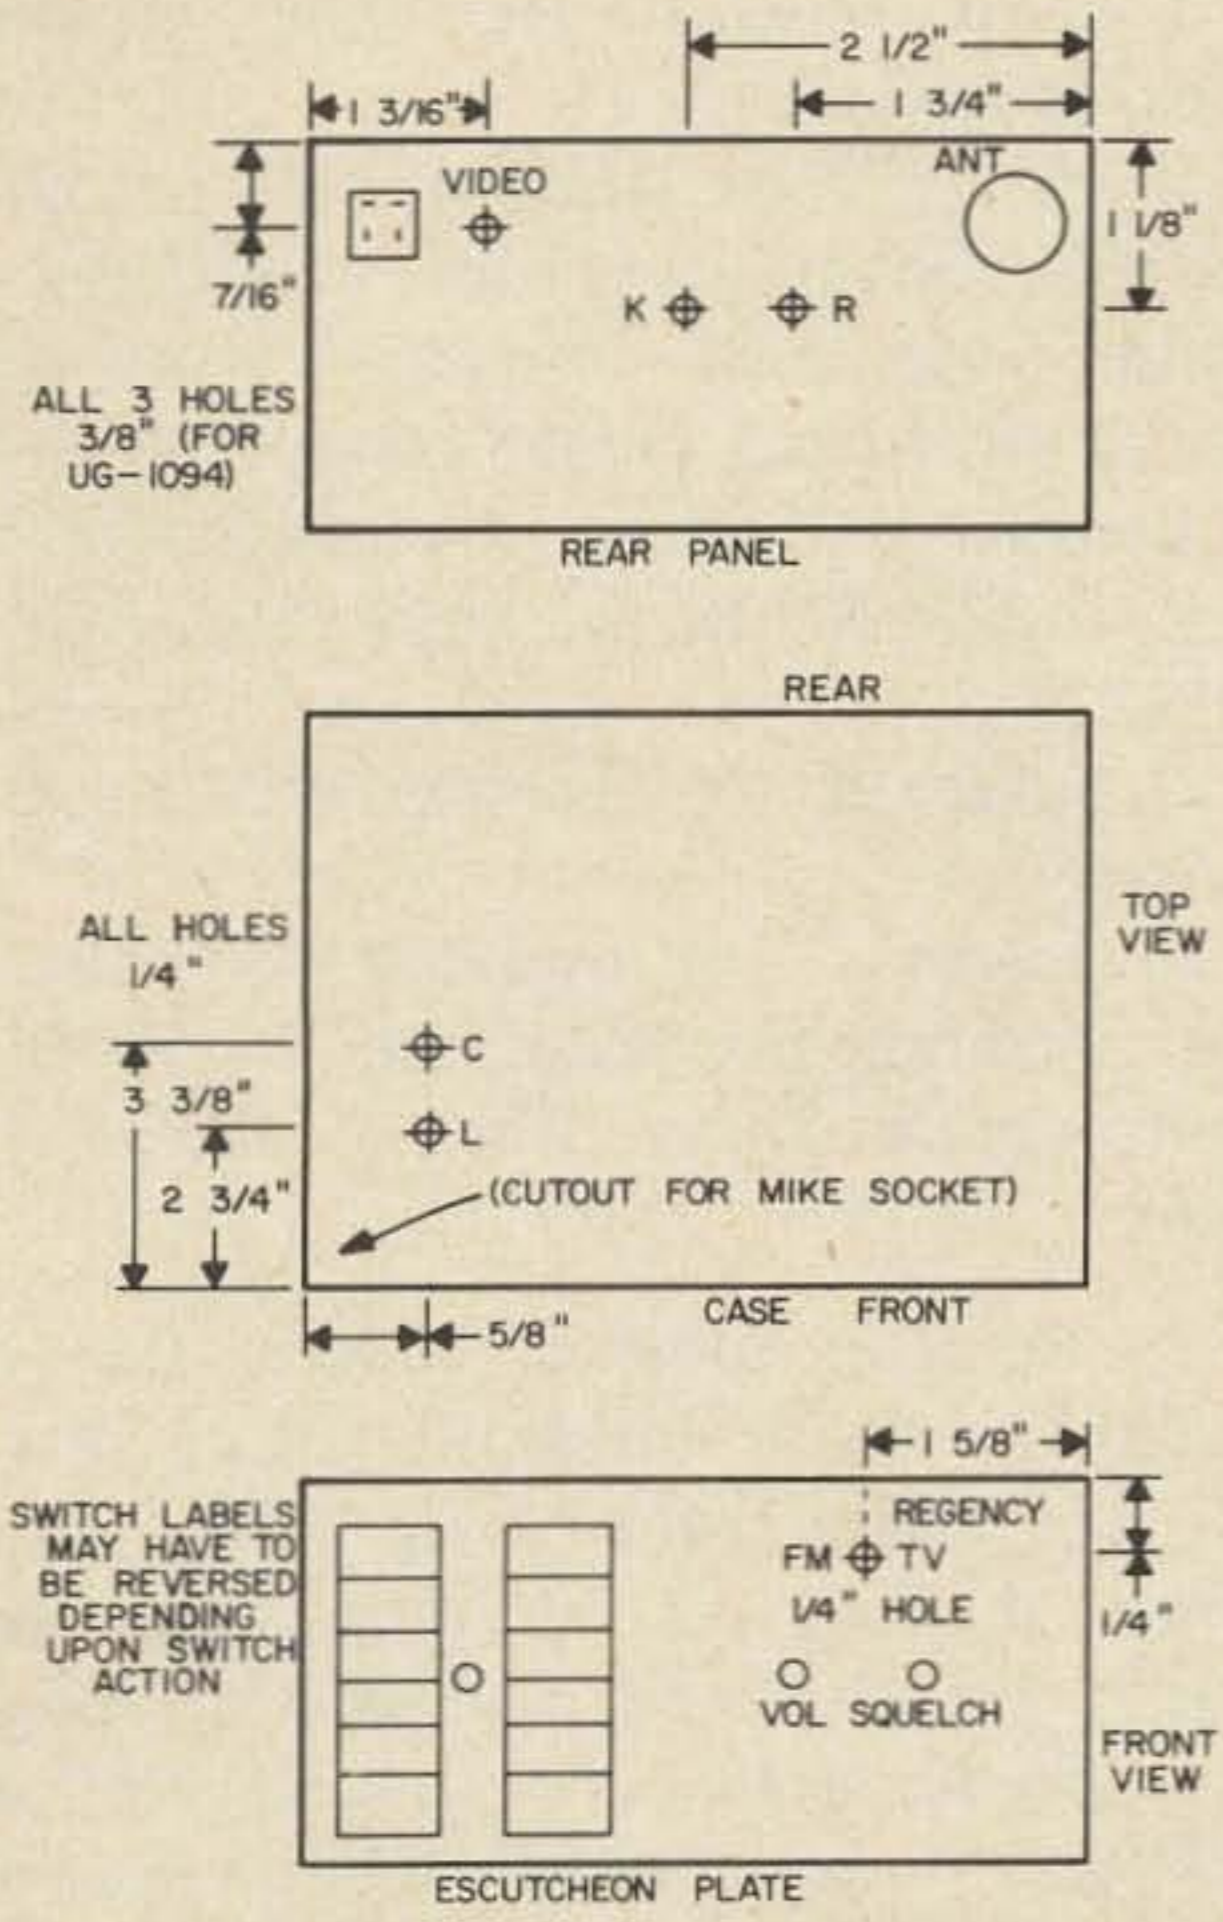

Fig. 7. Drill and label guides (not drawn to scale).
5. Using Fig. 7, very carefully drill three 3/8" holes in the rear chassis. A smaller drill size, such as 3/32", may be helpful to initially start the hole. When drilling, hold chassis securely and with foil side up to prevent metal particles from falling into the electronics. Clean burrs from holes with a file and apply labels "Video," "K" and "R" as shown in the figure.
12. In order to mount the front panel mode selector switch, pull off the three knobs on the front panel. Using a jeweler's screwdriver, pry off black escutcheon plate which is glued to the chrome-plated bezel. As shown in Fig. 7, drill a 1/4" hole and mount a miniature SPDT toggle switch.
20. Drill two 1/4" holes on top of the case and label as shown in Fig. 7.